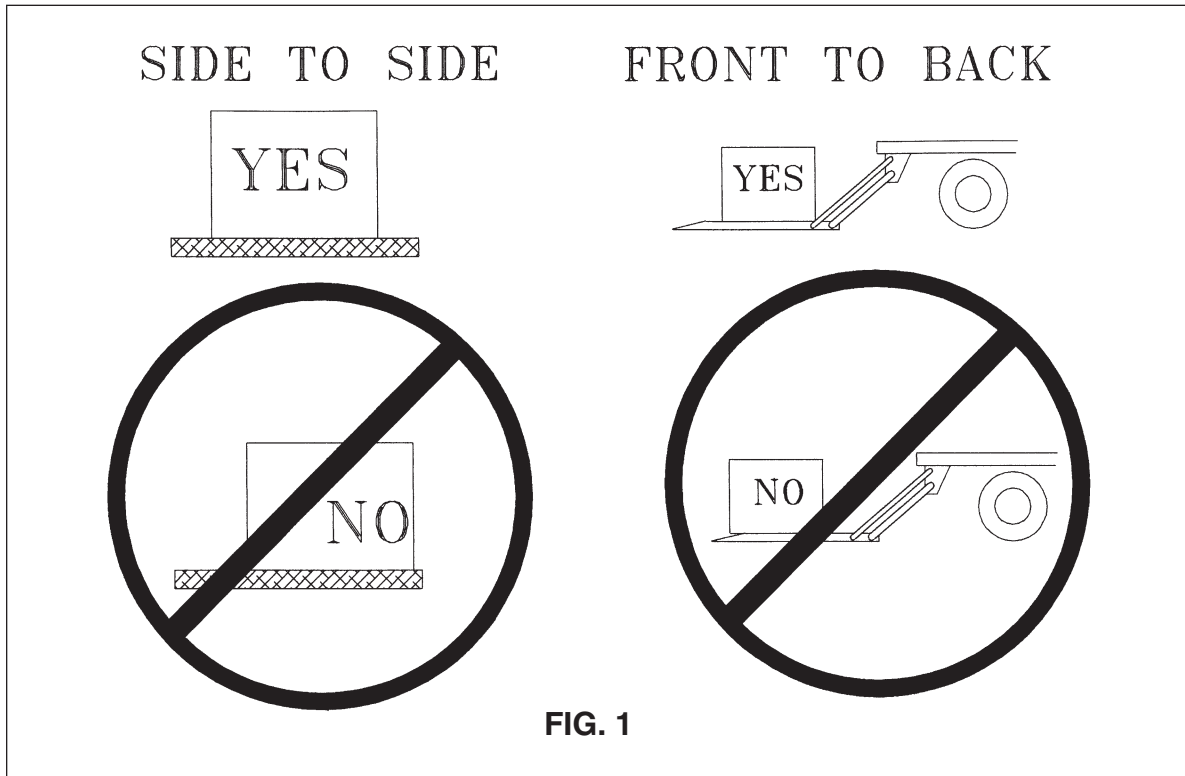

FIG. 1
- +Always load as close to the center of the platform and as close to the cylinder housing as possible. See figure 1.